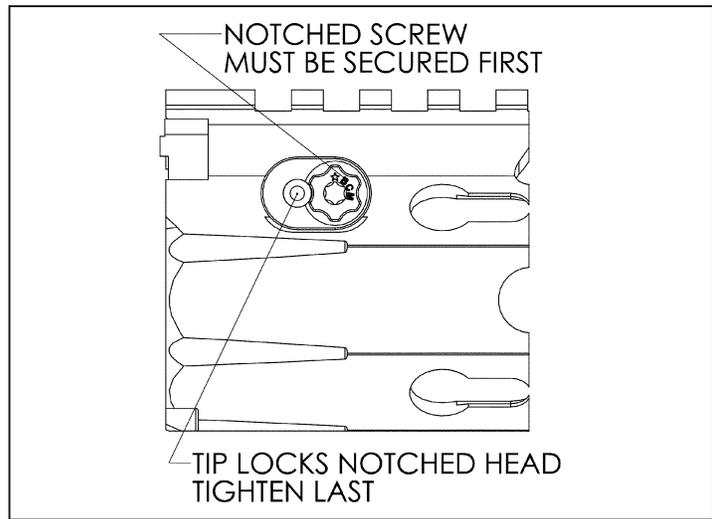

Figure 4
- Continue to tighten the notched cross bolt to 30-40 in-lbs. so that the notch in the head aligns with the adjacent screw hole as shown in **Figure 4**.
- Tighten the locking cross bolt (ensure it lines up with a notch in the notched cross bolt) to 30-40 in-lbs. **NEVER over tighten. Excessive tightening can damage the notched cross bolt. Note:** The tip of the locking cross bolt will lock the notched cross bolt. (See **Figure 4**.)